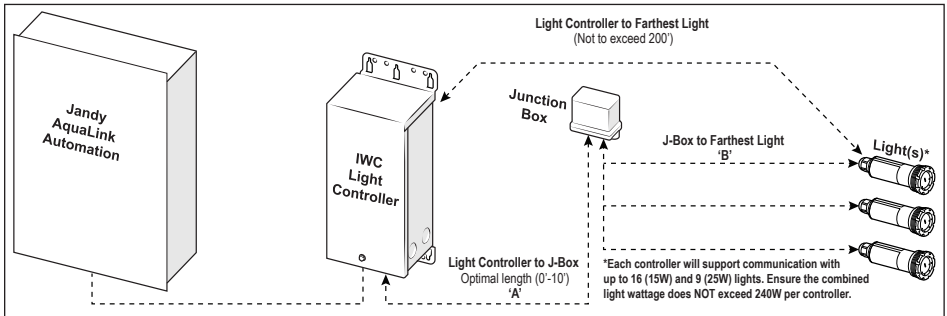

Figure 4. Jandy LED Infinite WaterColors Wiring Diagram
4. Use wire nuts to connect the low voltage light wires, white wire connects to orange wire and black wire connects to orange wire, see *Figure 4*. If installing a niched light, connect the green ground wire to the terminal bar in the controller